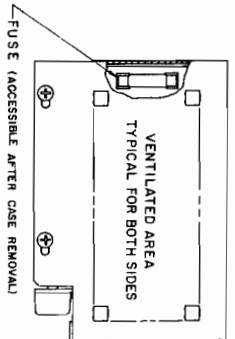

FIG. 1-2 MECHANICAL OUTLINE DRAWING.
- Refer to "Mechanical Outline Drawing," FIG. 1-2